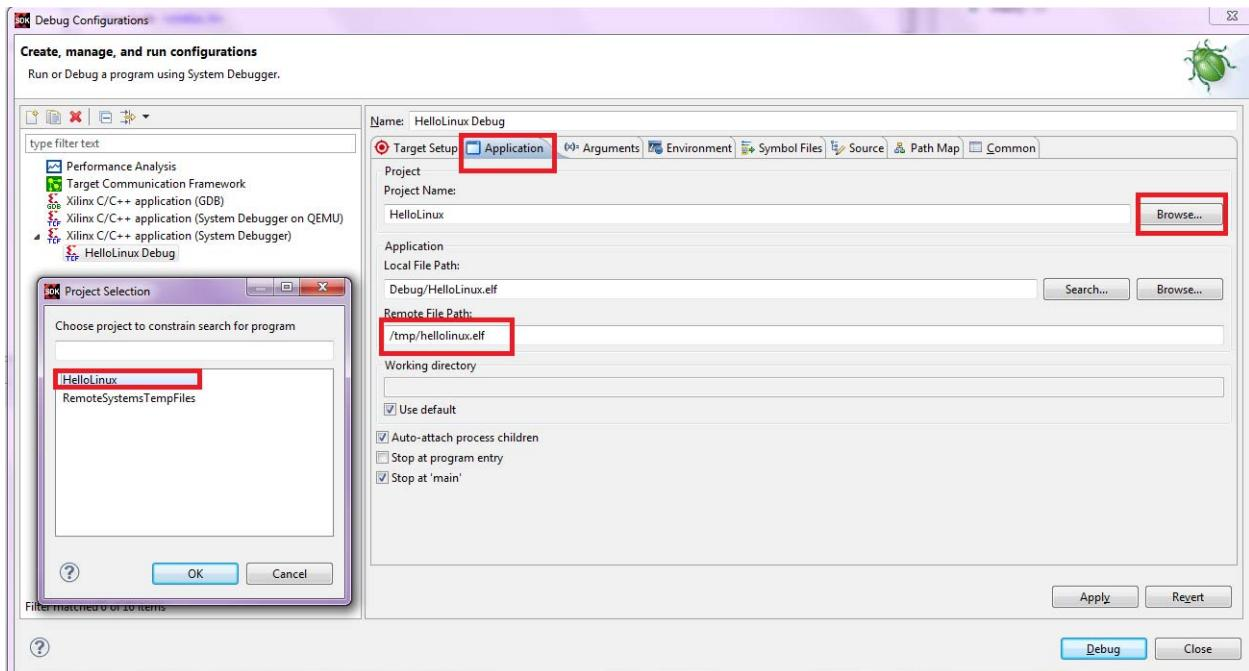

Figure 6-9: Debug Configuration Target Options
9. Set the Application configuration details, as described below (and shown in Figure 6-9).